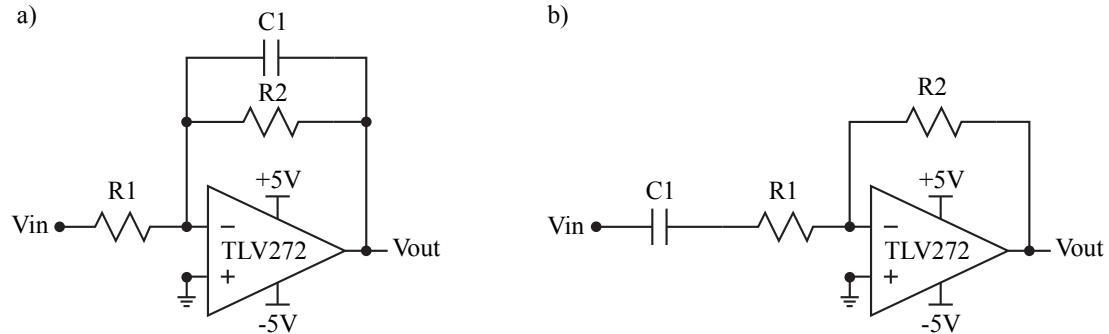

Figure 9.3: An example of an active RC low pass filter (a) and an active RC high pass filter (b).
There are a variety of active filter topologies but a simple implementation is to use an appropriately placed capacitor in conjunction with a typical inverting amplifier configuration, Figure 9.3 (a) and (b).
4. Build an active RC lowpass filter, Figure 9.3 (a). Set $C_1 = 0.1\mu\text{F}$ and determine the resistor values for a gain of -1 V/V (0 dB) and a $f_0 = 1.59 \text{ kHz}$ using only values in your lab kit. Set the voltage source to an AC amplitude of 1 and run an AC analysis with the following settings: Decade, 100, 1, 1Meg. Save an image of the circuit, a plot of the output, and table the 3 dB frequency for submission to Canvas.
5. Build an active RC highpass filter, Figure 9.3 (b). Set $C_1 = 0.1\mu\text{F}$ and determine the resistor values for a gain of -10 V/V (20 dB) and a $f_0 = 482.3 \text{ Hz}$ using only values in your lab kit. Set the voltage source to an AC amplitude of 1 and run an AC analysis with the following settings: Decade, 100, 1, 1Meg. Table the 3 dB frequency. Save an image of the circuit, a plot of the output, and table the 3 dB frequency (3 dB from the passband) for submission to Canvas.